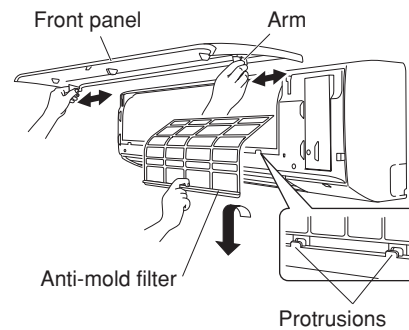

Fig. 16
If the front panel is difficult to remove, grasp both ends of it and lift it up slightly. Move it to the left and disengage the left arm, then move it to the right and disengage the right arm. (Fig. 16)
- (2) Lift the anti-mold filter up slightly to disengage it from the protrusions on the unit, and then pull downward to remove the filter from the unit. (Fig. 16)